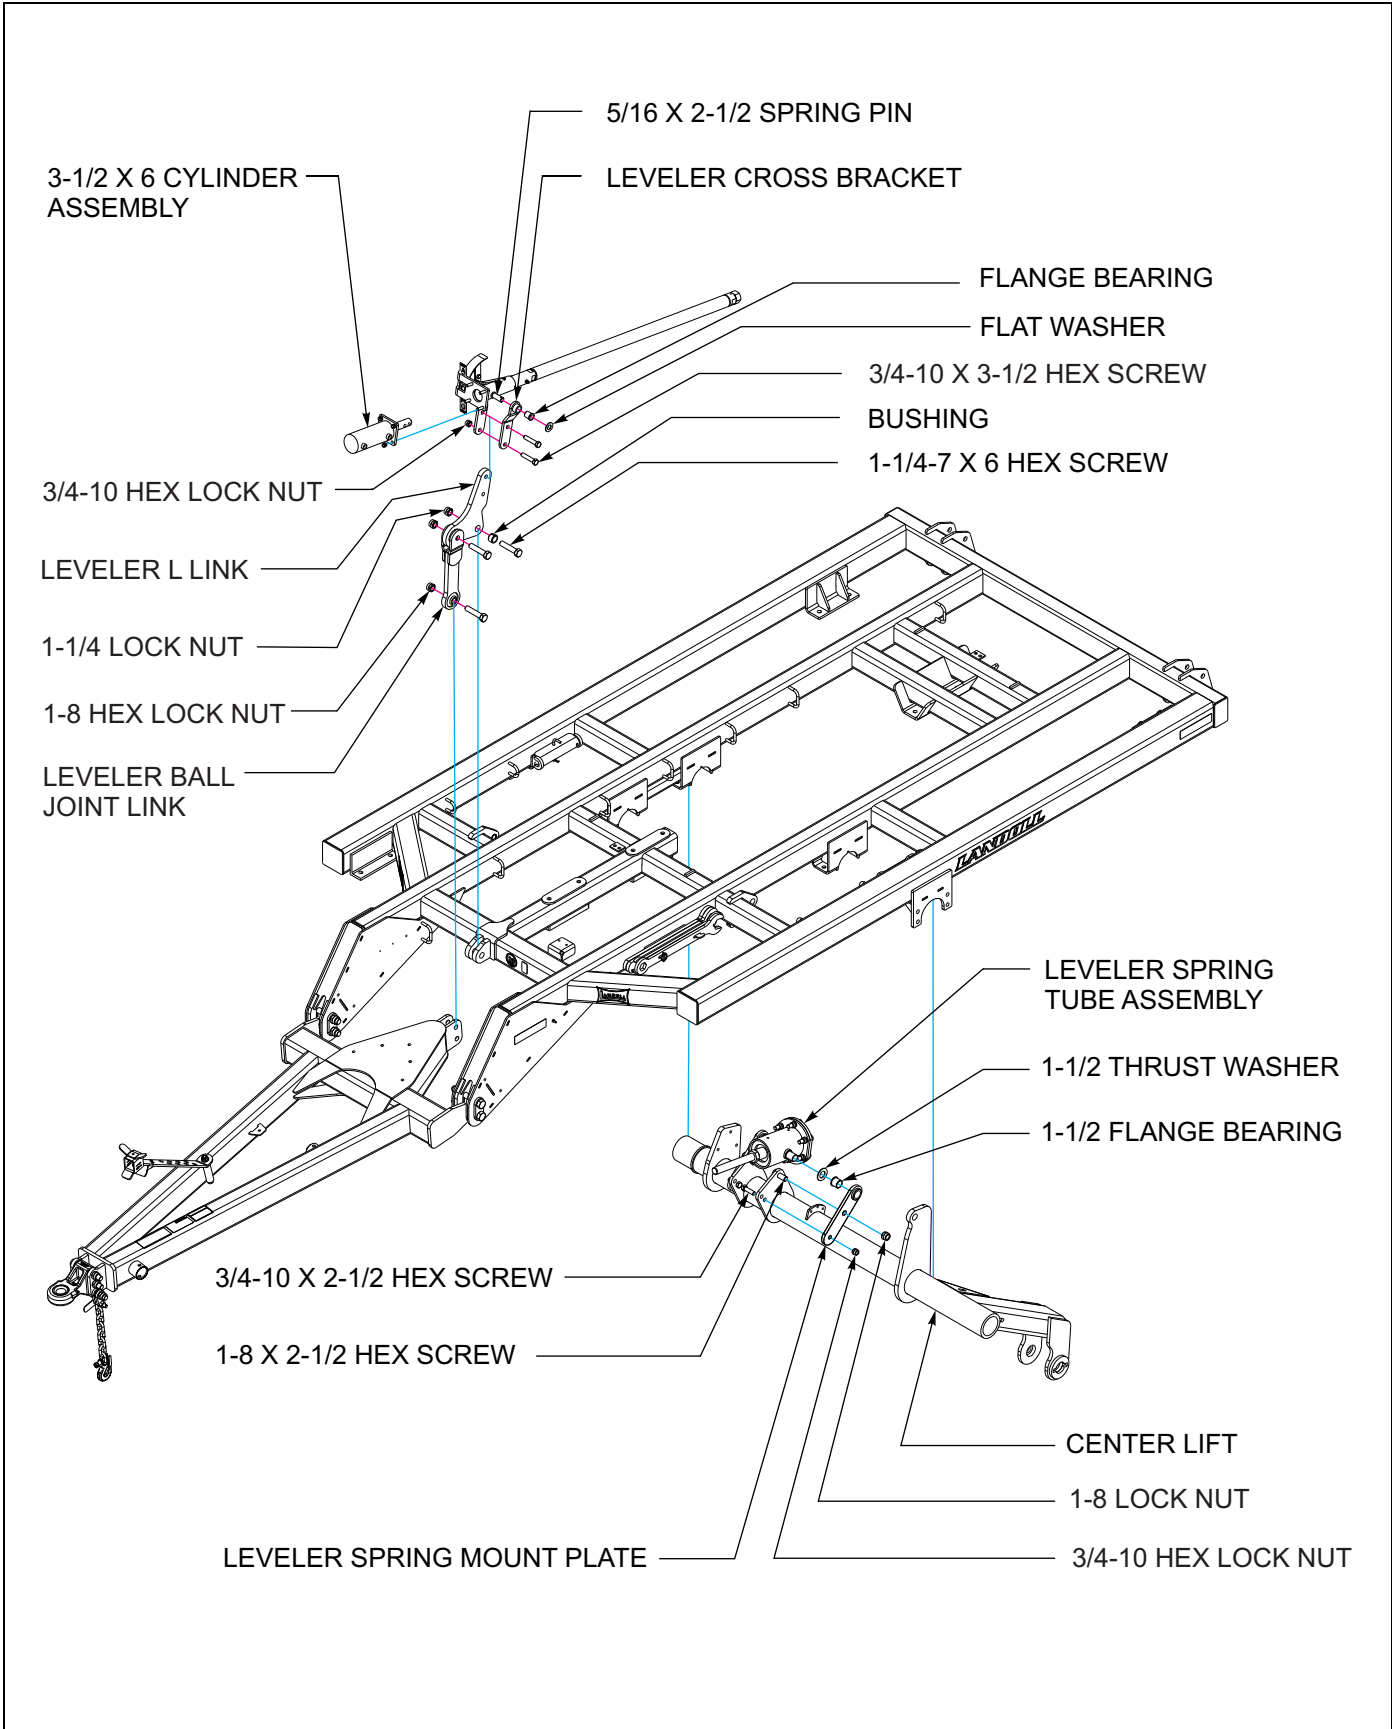

Figure 3-2: Leveler Assembly Installation
1. Install a hardened steel wear bushing in the leveler L link (**See Figure 3-2.**)